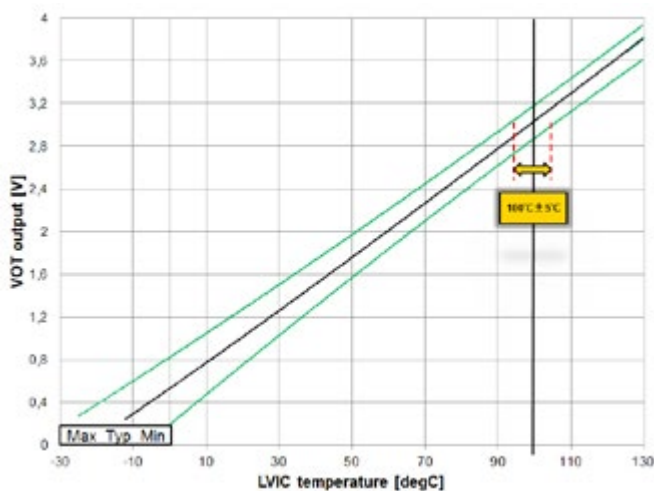

Figure 12: Analogue temperature output signal VOT from DIPIPM+™
Recently it became popular to specify dual (or multiple) inverter ratings for different overload capabilities: if a low overload (LO) capability is required the maximum motor rating can be selected one rank bigger than for a drive with high overload (HO) capability. By this approach the thermal impedance (capacitance) of the heatsink is utilized for absorbing the dissipated excess-power during short overload situations. In this way more output power can be obtained for a short time from a given inverter hardware by using the built-in thermal system margins. For doing this an accurate information about the actual temperature of power module is needed. Usually this is done by putting an NTC to the heatsink (or to use a power module integrated NTC). The DIPIPM+™ is offering an analog temperature output signal VOT having a linear transfer characteristic over the whole operation temperature range, see Figure 12. By using this accurate analogue VOT-signal it's possible to allow significantly higher inverter output currents than indicated in Figure 11 without the risk of tripping the thermal inverter protection.